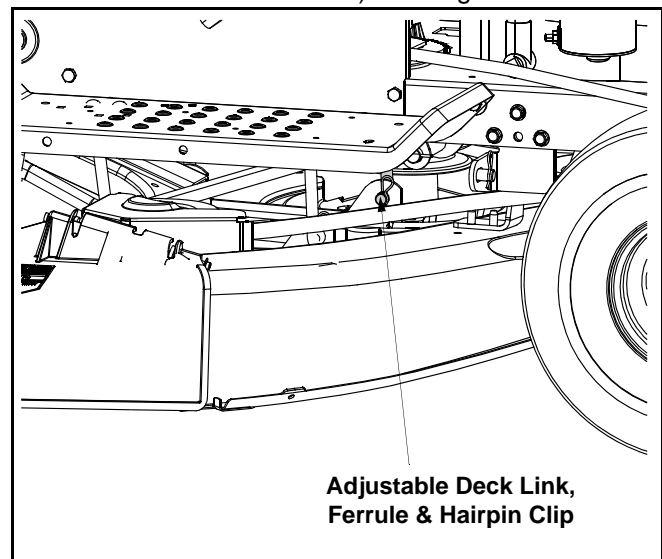

Figure 6
- Remove the hairpin clip from the ferrule found at the bottom of the front, left deck link (hairpin clip is on the inside of the lift link). See Figure 6.